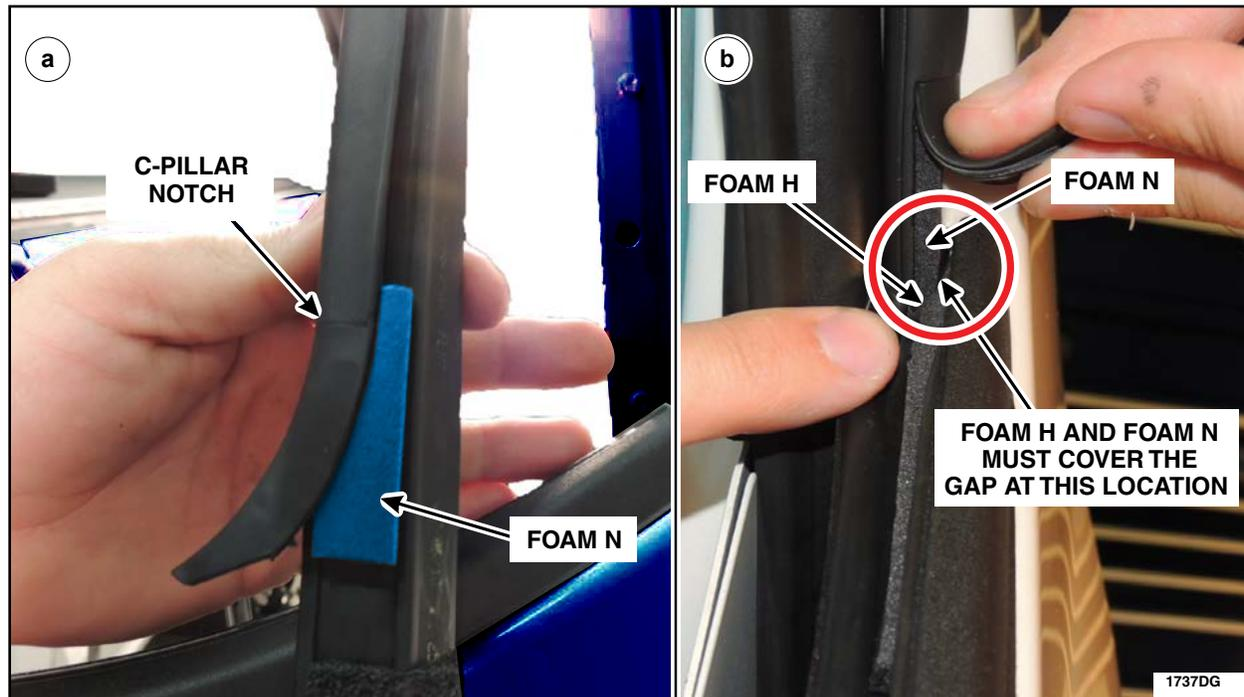

FIGURE 75
18. Install Foam N to the highlighted area of rear door glass top run making sure that the Foam N is under the C-Pillar notch. See Figure 75.